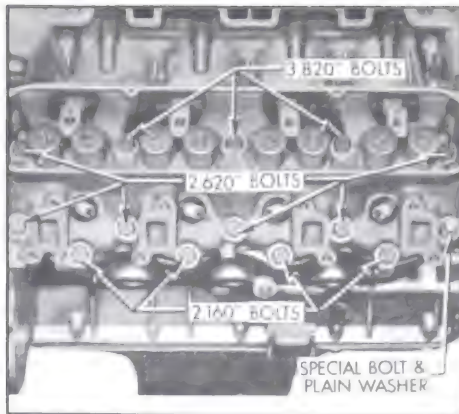

Figure 2-26—Cylinder Head Bolt Installation
5. Clean and lubricate the head bolts with "Perfect Seal" sealing compound. Install bolts as shown in Figure 2-26.
6. Tighten the head bolts a little at a time about three times around in the sequence shown in Figure 2-26, then torque the bolts in the same sequence to 65-70 ft. lbs.